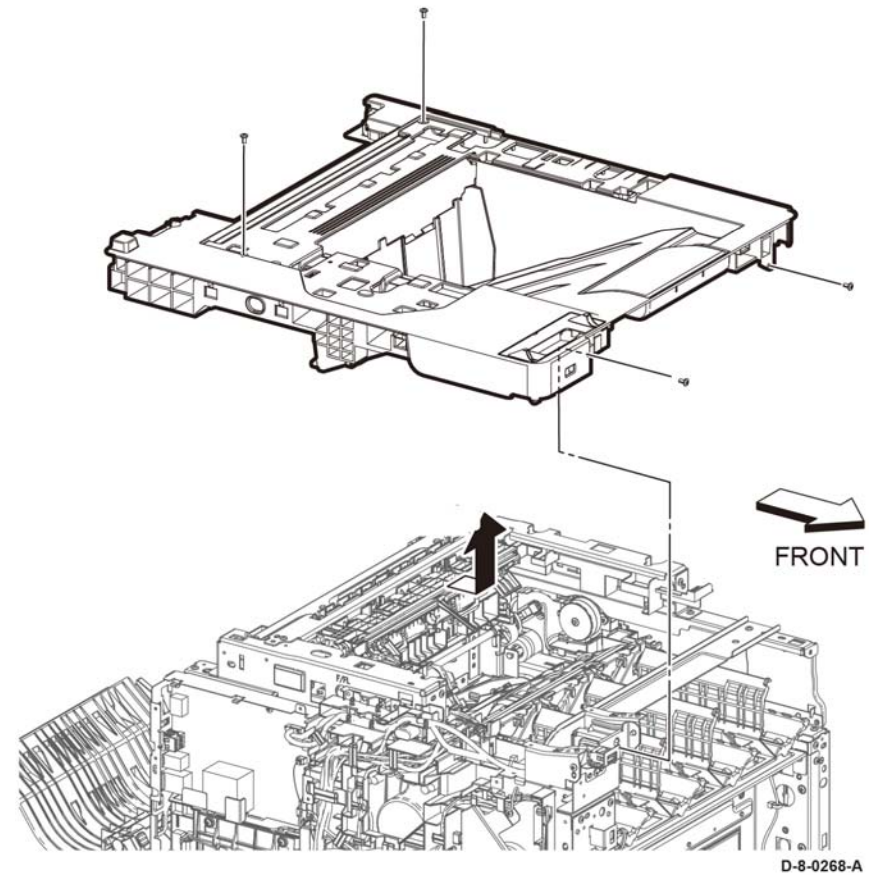

Figure 1 Remove the Top Cover Assembly (C500/C600)
10. Refer to Figure 1, to remove the three screws (silver, M3x6mm) attaching the Top Cover Assembly, then lift up the cover.